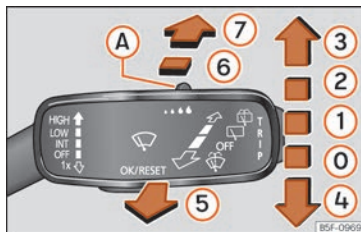

Fig. 140 Window wiper lever.
- Give the windscreen a **brief** wipe by moving the lever down to position **4** » » **Fig. 140**.
- Push the lever up to position **1** » » **Fig. 140**.
- Push the lever up to position **2** » » **Fig. 140**.
- Push the lever up to position **3** » » **Fig. 140**.
- Pull the lever towards the steering wheel, position **5** » » **Fig. 140**, and the windscreen washer and wipers are switched on.
- Press the lever forward to position **6** » » **Fig. 140** and the rear window wiper will run every 6 seconds.
- Press the lever fully forward to position **7** » » **Fig. 140** and the rear window wiper and washer switch on at the same time.
- Move the lever to position  »» Fig. 140.
The headlight washers operate briefly if the dipped headlights or headlights are on and the lever is moved to position  »» Fig. 140. The headlight washer system also operates every 10 windscreen wash cycles.